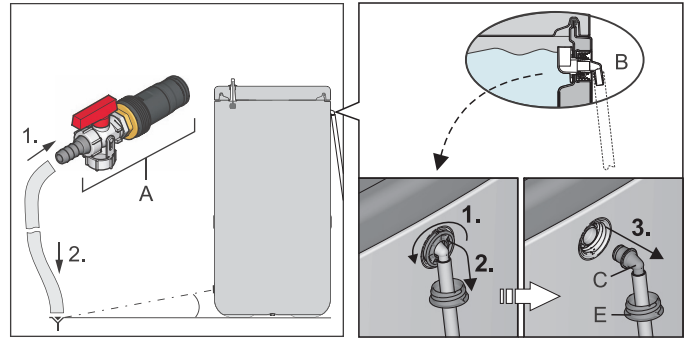
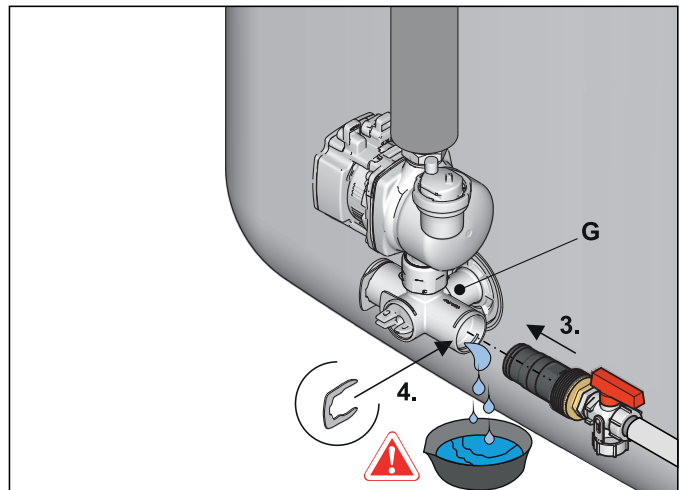

Fig. 5-1 Installing the drain hose; optional: Detaching the connecting piece from the safety overflow
Fig. 5-6 Installing the KFE filling connection in the connection bracket
- 2 Connect a drain hose to the **KFE filling connection (accessory KFE BA)** (fig. 5-1, item A) and lay to a drainage point that is at least at ground level.
If no **KFE draining connection** is available, the connecting piece (fig. 5-1, item C) can be detached from the safety overflow (fig. 5-1, item B) and used.
Tab. 5-1 Legend for fig. 5-1 to fig. 5-6
- 3 Insert the **KFE filling connection** in the connection bracket and secure with the holding clamp (fig. 5-6).